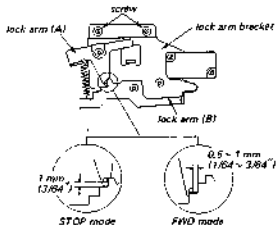

Fig. 3-9. Lock arm bracket position adjustment
- Make sure that the clearance between the lock arm (A) and the lock arm (B) is 0.5 ~ 1 mm (1/64 ~ 3/64) in the FWD (or REV) mode. In the STOP mode the clearance between the lock arm (A) and the lock arm (B) should be approximately 1 mm (3/64"). See Fig. 3-9.
- Loosen the two lock arm bracket holding screws, if necessary. See Fig. 3-9.